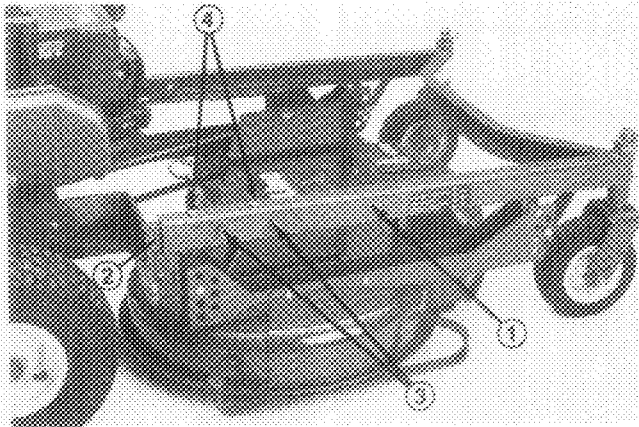

Figure 3
3. Remove (2) capscrews and locknuts securing right side of carrier frame to frame angle bracket. To simplify the removal of side capscrews, it may be necessary to loosen the top capscrews securing carrier frame to frame angle bracket (Fig. 3).